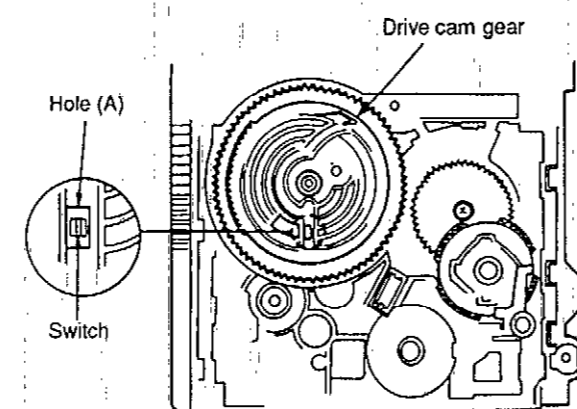

Fig. 4
7. Align the hole (A) of the drive cam gear with the switch, and then insert the drive cam gear. (See Fig. 4)
**Note:** In case that the drive cam gear is inserted into the holes except the hole (A) of the drive cam gear, the switch may be damaged.